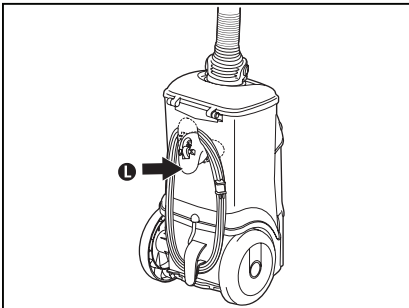

Fig. 7
Step 5: Rotate swivel cord hook **L** on bottom of canister to release cord (Fig. 7).
Step 3: Rotate swivel cord hook **L** on bottom of canister to release cord (Fig. 7).